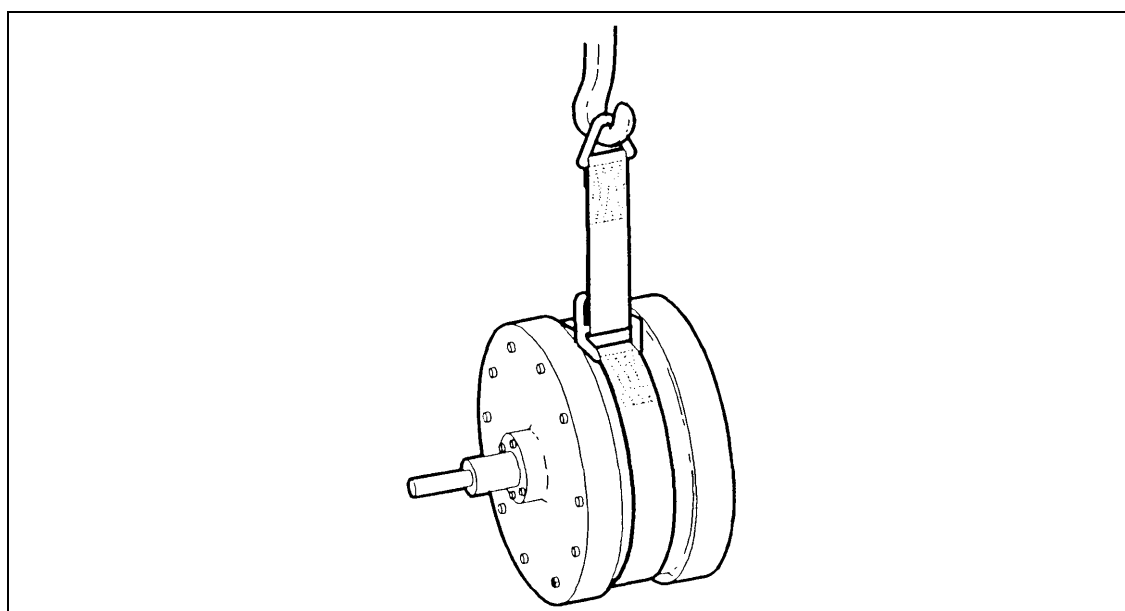

Figure 4.1.7
4.1.7 Remove Gearbox (Fig. 4.1.7)
ATTENTION When removing or installing the gearbox, always suspend it from a hoist or the like to avoid excessive load to the splined shaft. Use the lifting sling* as shown in Figure 4.1.7.
Remove the six screws (M16) connecting the gearbox to the gearbox adapter. Place the sling* as shown in Figure 4.1.7.